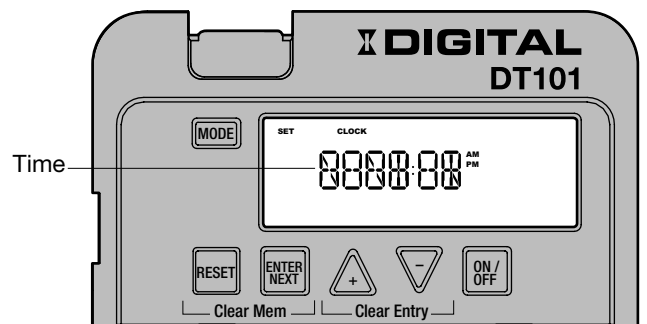

FIG. 8 Setting the Time
1. If necessary, press the **MODE** button repeatedly until the words SET and CLOCK appear in the upper area of the display. See FIG. 8.